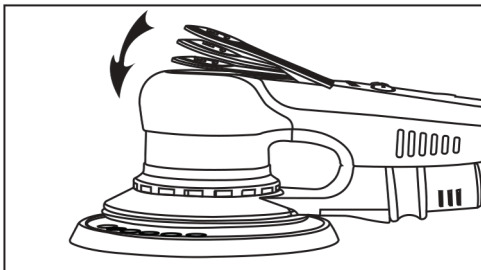

figure 6
- Intermediate speeds between Zero (0)/min (RPM) and the set Maximum Speed can be used with intermediate Lever positions. - see figure 6